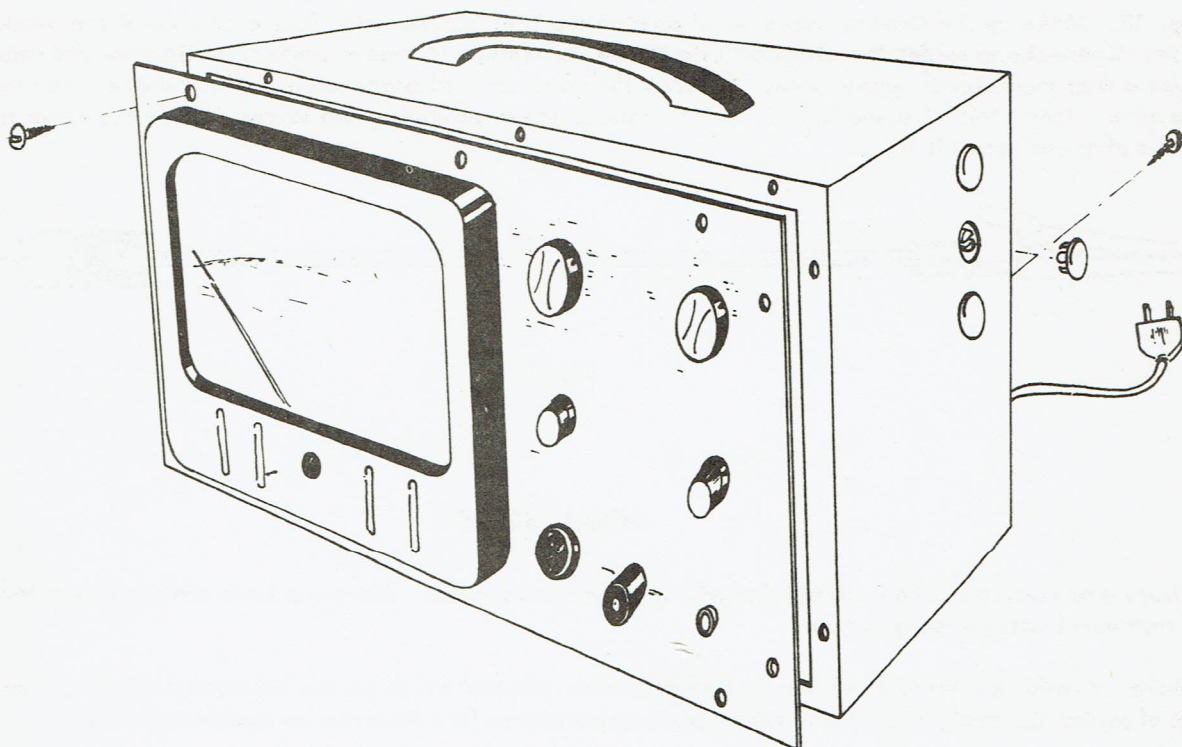

Fig. 14
7) Fig. 14. Mount the handle on the cabinet using two #10-24 screws.